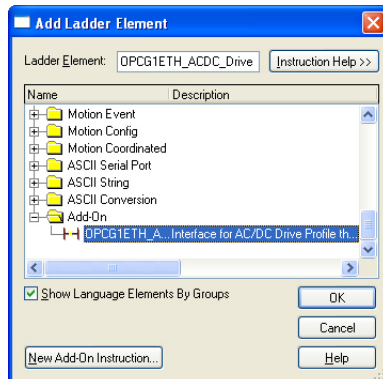

Figure 91: Add AC/DC Drive Profile Add-On Instruction
- 8) Select the AC/DC drive profile add-on instruction in the Add-On folder. Refer to Figure 91.